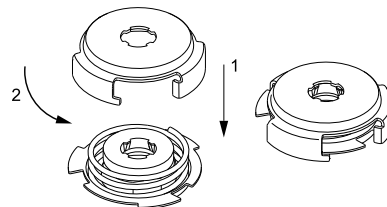

Fig. 26 Fitting the spring and driver
7. Fit spring (pos. 108) and driver (pos. 112). See fig. 26.